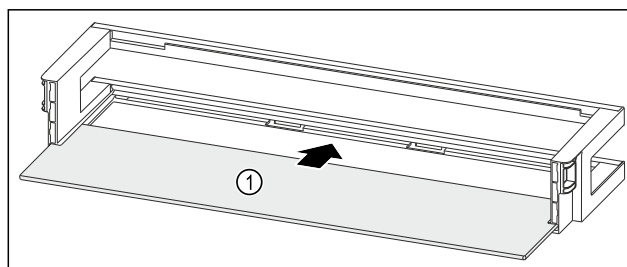

Fig. 118 Door rack with shelf
- Push the shelf Fig. 118 (1) into the side recesses.